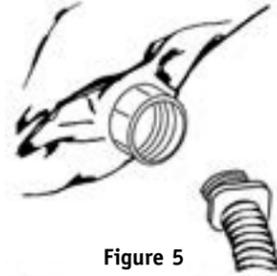

Figure 5
1. Align male end of breathing tube to female threaded insert on the back of the hood (see Figure 5). Do not remove foam from inside the breathing tube used with CC20 Series Airline Respirators. The foam helps to reduce the noise level of incoming air.